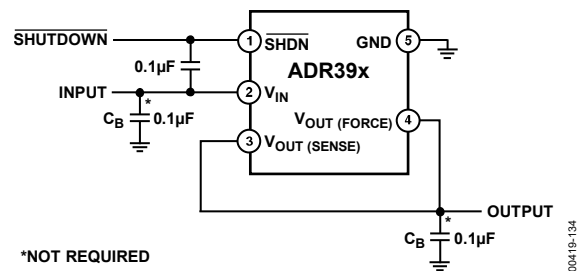

Figure 35. V_{IN} and $\overline{\text{SHDN}}$ Capacitor
- Capacitor placed between V_{IN} and $\overline{\text{SHDN}}$ as shown in Figure 35, or